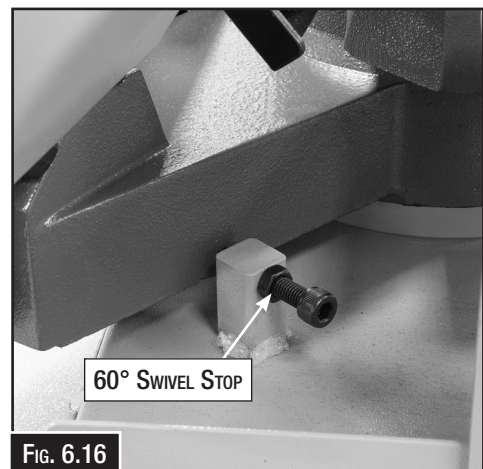

FIG. 6.16
4. Check that the 60° head stop is hard up against the casting. If there is a gap between the casting (Fig. 6.16) and the stop screw, then loosen the lock nut and adjust the stop bolt until it rests against the casting.